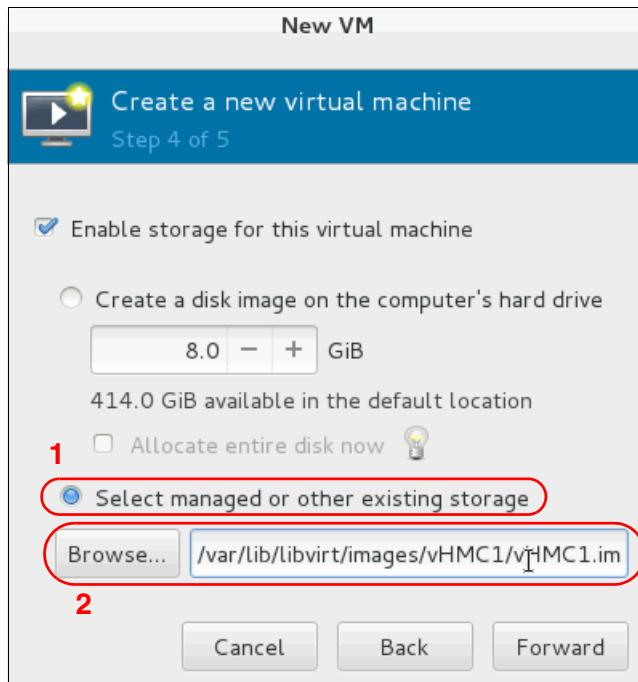

Figure 3-26 Locate the disk image file in the storage pool
6. In the next panel (Figure 3-26), choose **Select managed or other existing storage**, and click **Browse** to locate the /var/lib/libvirt/images/vHMC1/vHMC1.img file created in the initial step. Then, click **Forward**.